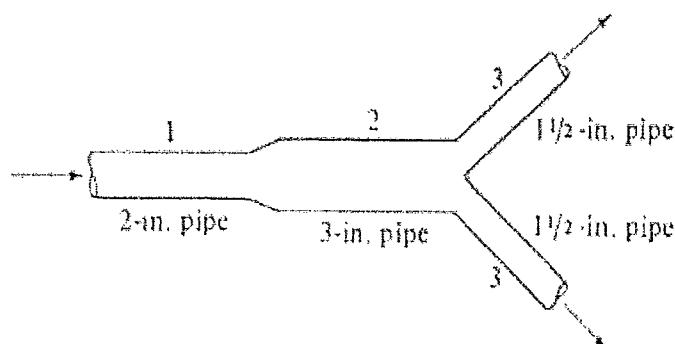

Figure 2 - Piping arrangement for petroleum crude oil
- [c] A petroleum crude oil having a density of  $892 \text{ kg/m}^3$  is flowing through the piping arrangement shown in Figure 2 at a total rate of  $1.388 \times 10^{-3} \text{ m}^3/\text{s}$  entering pipe 1. The flow divides equally in each of the pipe 3. Given the internal diameter for pipe 1, 2 and 3 are 2.067 in., 3.068 in. and 1.610 in, respectively. Calculate the following in SI units: